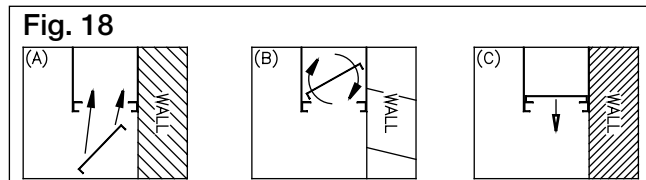

Fig. 18
2. Insert the air diffusers at an angle from the bottom, and rotate so the forms are downward. Rest the diffuser on the internal angles. (Fig. 18)